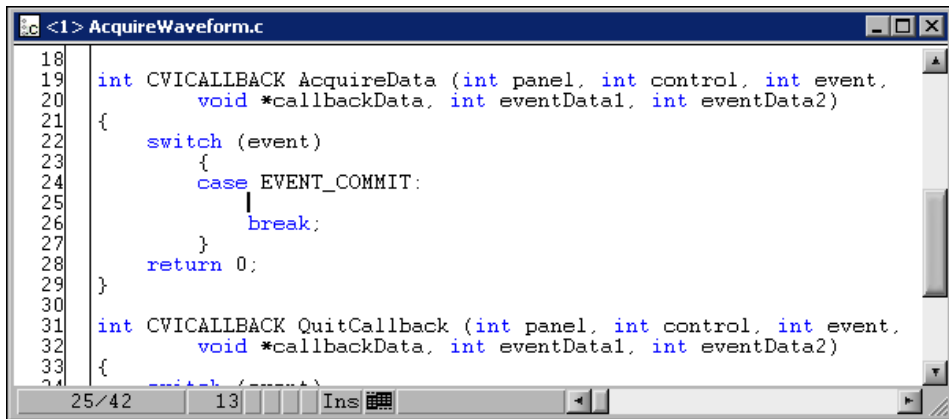

Figure 3-7. Cursor Position in `AcquireWaveform.c`
- Place your cursor on the blank line just after the `EVENT_COMMIT:` statement in the `AcquireData` function, as shown in Figure 3-7.